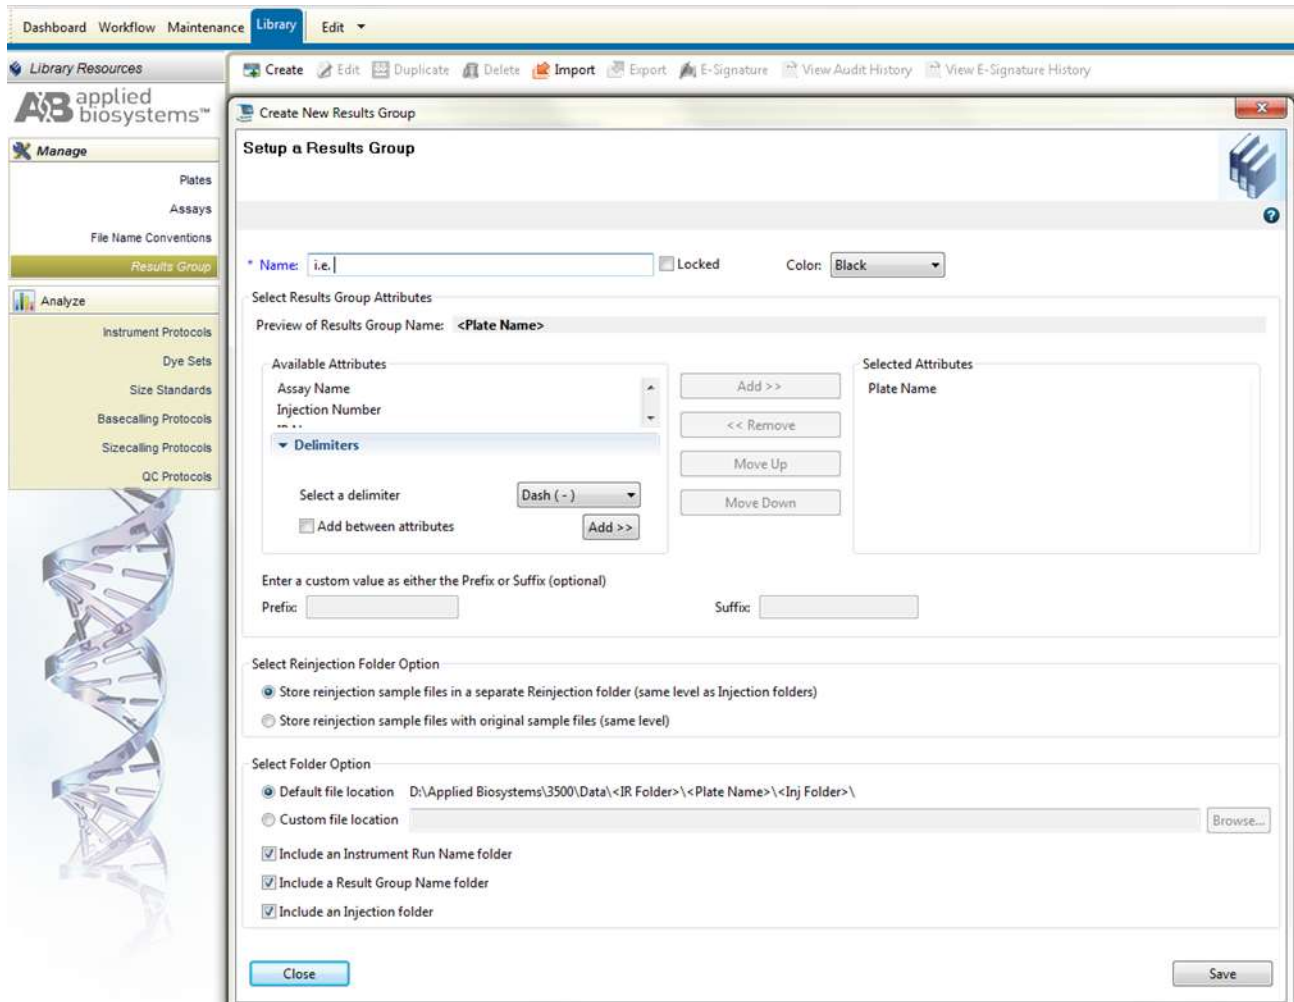

Figure 10. Screenshot for the “Create New Result Group” window on Applied Biosystems 3500 Data Collection software
- c) select “*Create*” (Figure 10)